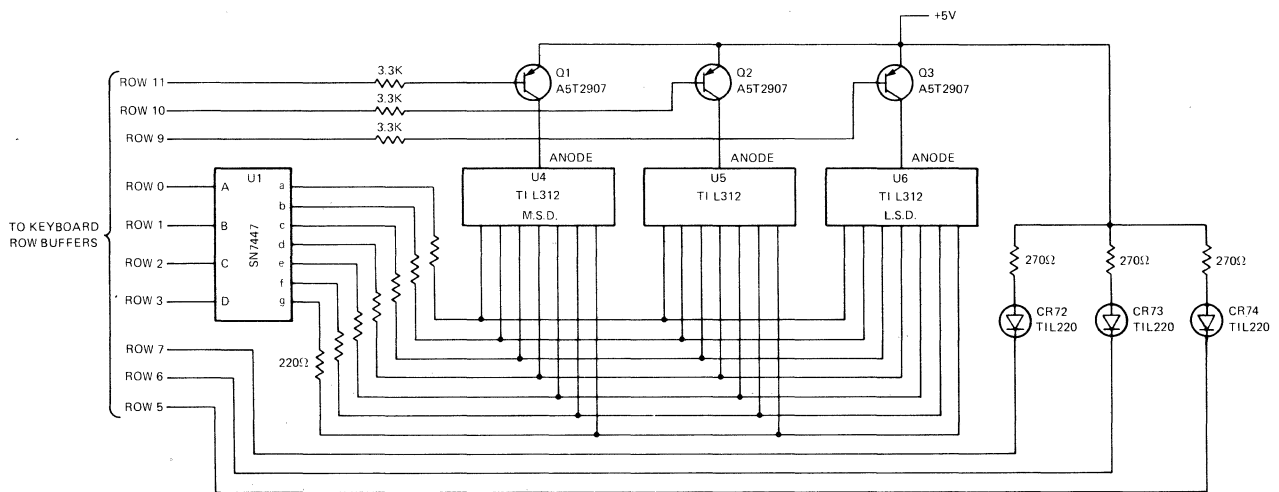

Figure 4-7. Terminal Displays, Simplified Diagram
4.4.3 TERMINAL STATUS DISPLAY AND INDICATORS. The terminal status display (TSD) is controlled by rows R0-R3 and R9-R11. Outputs R9-R11 strobe the seven-segment LED displays by forward-biasing transistors Q1, Q2, Q3. These three transistors supply the current to the common-anode segment LED diodes of the display. The display is driven by a BCD-to-seven-segment decoder/driver (U1; drawing 999822, sheet 1). The four inputs (A-D) for the decoder/driver are R0-R3, respectively (see Figure 4-7). The other terminal indicators are controlled by R5-R7 and are activated by enabling their respective row (low).